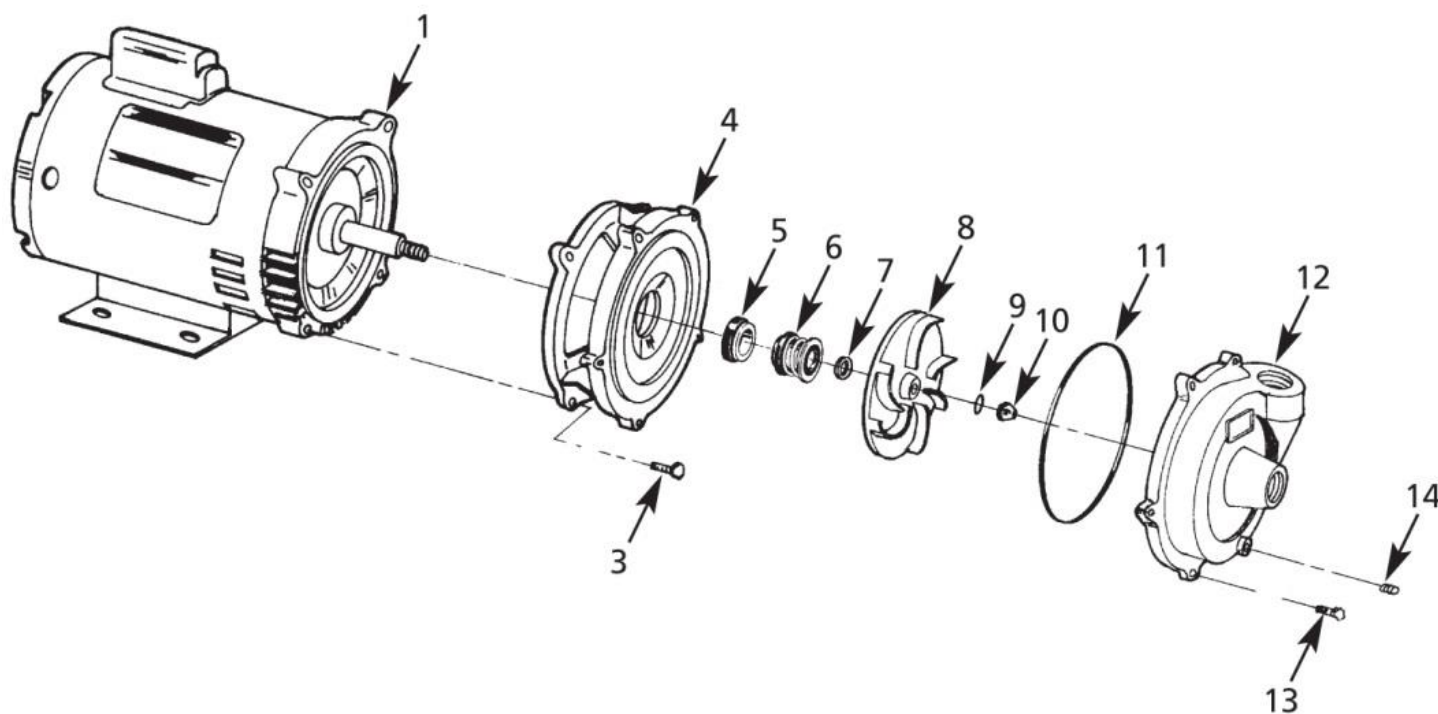

Figure 2 – Repair Parts Illustration
9. Wet inside rubber portion of new seal head with a light coating of soapy water. Slide head onto motor shaft with sealing surface facing seal seat. (See Figure 2).